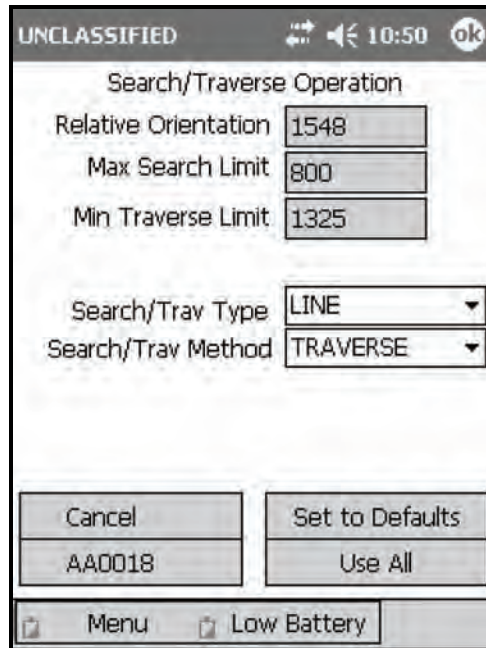

Figure 18-91. Search and Traverse Operation screen.
(11) Select Use All.
(12) The Mission Data screen displays.
(13) Select Use All.
(14) The Search/Traverse Operation screen (Figure 18-91) displays. The Search/Traverse Operation screen provides the FDC operator with—